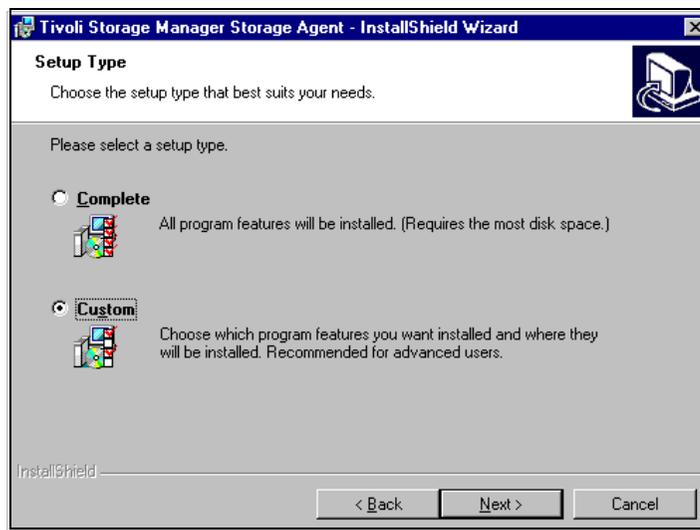

Figure 50. Installing the Storage Agent, choosing setup type
2. Select custom installation (Figure 50).